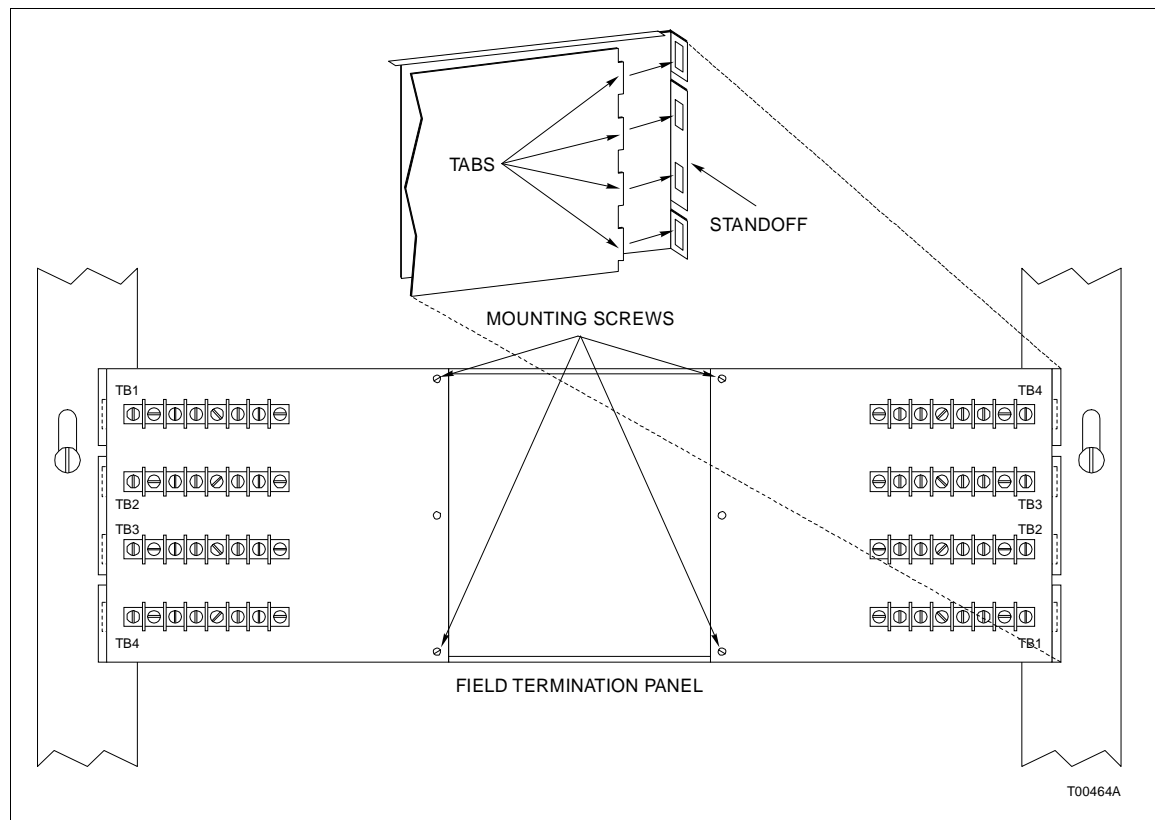

Figure 2-1. Installation for NTAI04
The TU mounts on a standard NFTP01 Field Termination Panel. Figure 2-1 shows how to secure the termination unit to the FTP.
3. Mount the TU to the field termination panel with 2, number 10, $\frac{3}{4}$ inch screws. Do not over-tighten the screws. See Figure 2-1.